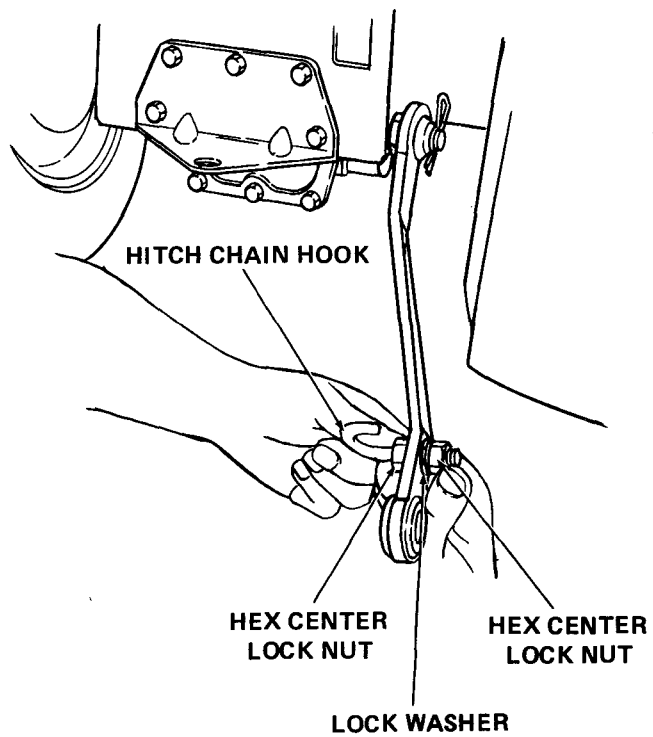

Figure B-18
8. Install hitch chain hook (P) as follows. Refer to Figure B-18.